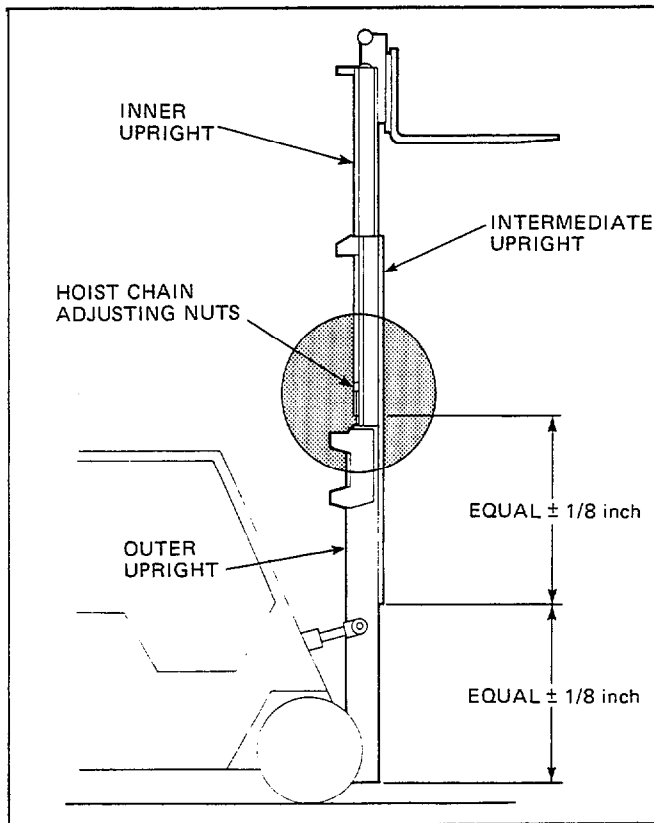

Figure 46. Triple Lift Adjusting Nuts
The mast chain should be adjusted so that when the unloaded mast is fully lowered, all upright channels are even with each other at the bottom within 1/8 inch. See Figure 46.
1. To adjust, raise the mast until the mast chain adjusting nut is just above the outer upright. See Figures 46 and 47. Tighten or loosen the adjusting nut to adjust one chain to achieve the equal dimension. Adjust the other mast chain until equal tension is achieved.